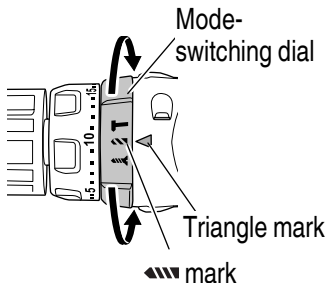

Fig. 15
- (2) When using this unit as a drill, align the mode-switching dial drill mark “▲” with the triangle mark on the outer body. (See Fig. 15)